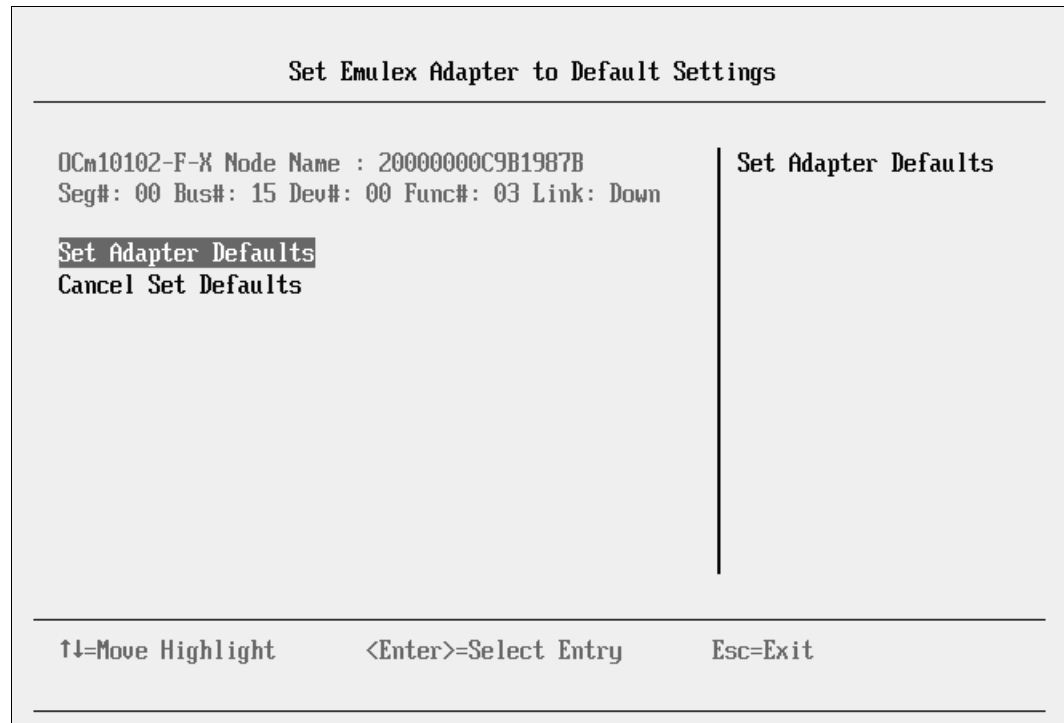

Figure 9-118 Set Emulex Adapter to the Default Settings panel
2. In the Set Emulex Adapter to Default Settings panel (Figure 9-118), select **Set Adapter Defaults** to load the default settings on *both* CNA ports.